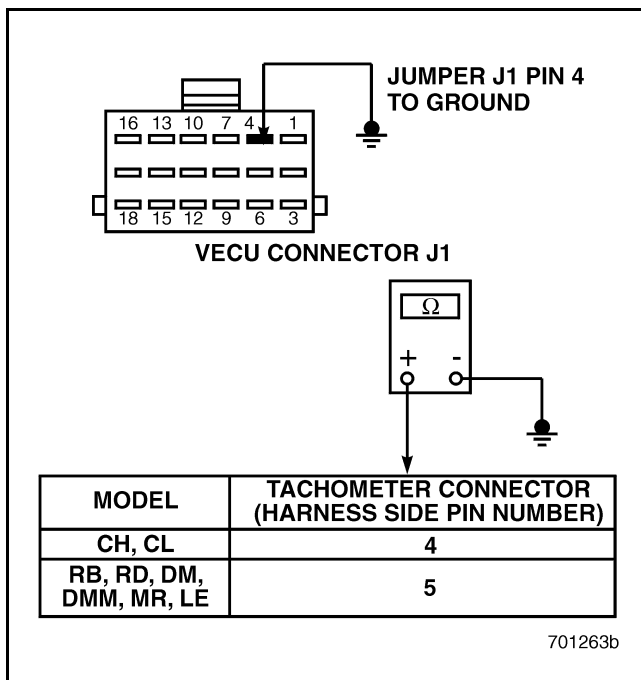

Figure 511
4. Connect a jumper between VECU connector J1 pin 4 and a good ground (see Figure 511).
5. Check for continuity between the pin shown in Figure 511 and a good ground.